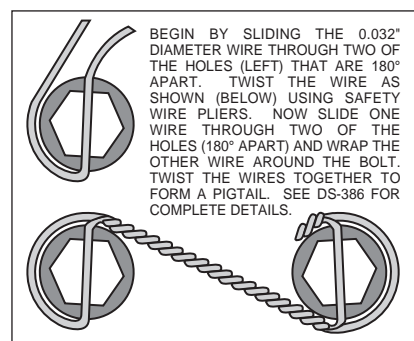

Figure 5. Safety Wire Diagram
- With the larger I.D. side of the rotor (4) facing away from the hat (3), bolt rotor (4) to hat (3) through the backside of the rotor using washers (5) and bolts (6). Using an alternating sequence, apply red *Loctite*® 271 to the threads and torque bolts to 155 in-lb. For an added measure of security, the bolts may be safety wired using standard 0.032 inch diameter stainless steel safety wire as shown in Figure 5. Please refer to Wilwood's data sheet DS-386 (available at www.wilwood.com/Pdf/DataSheets/ds386.pdf) for complete safety wire installation instructions.